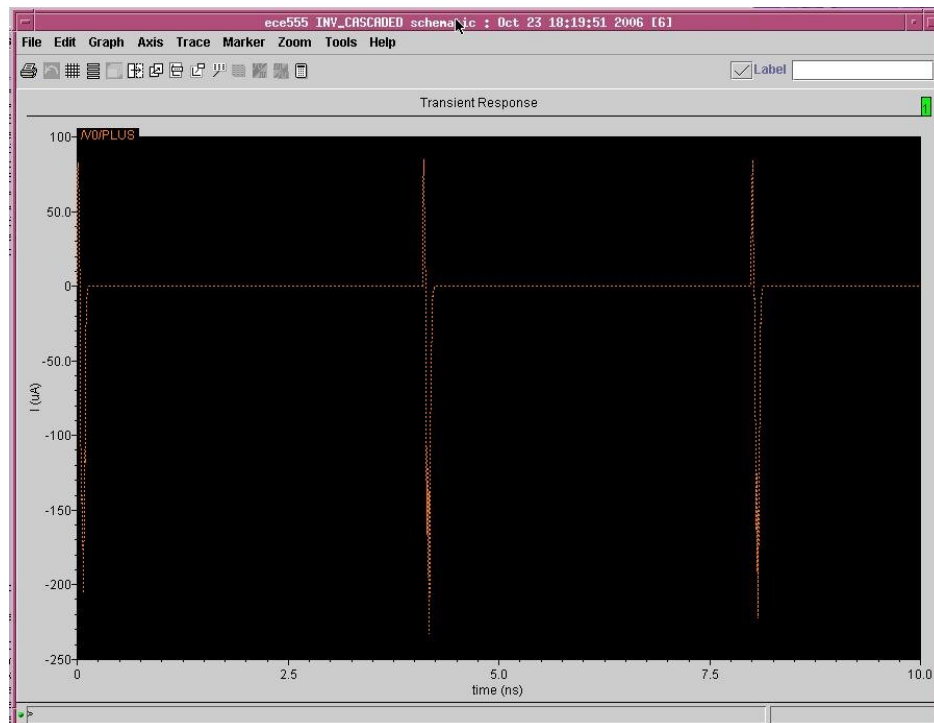

Fig. 6. Current Waveform of VDD
- Simulate the circuit and the current plot of the VDD will pop-up as shown in Fig. 6.